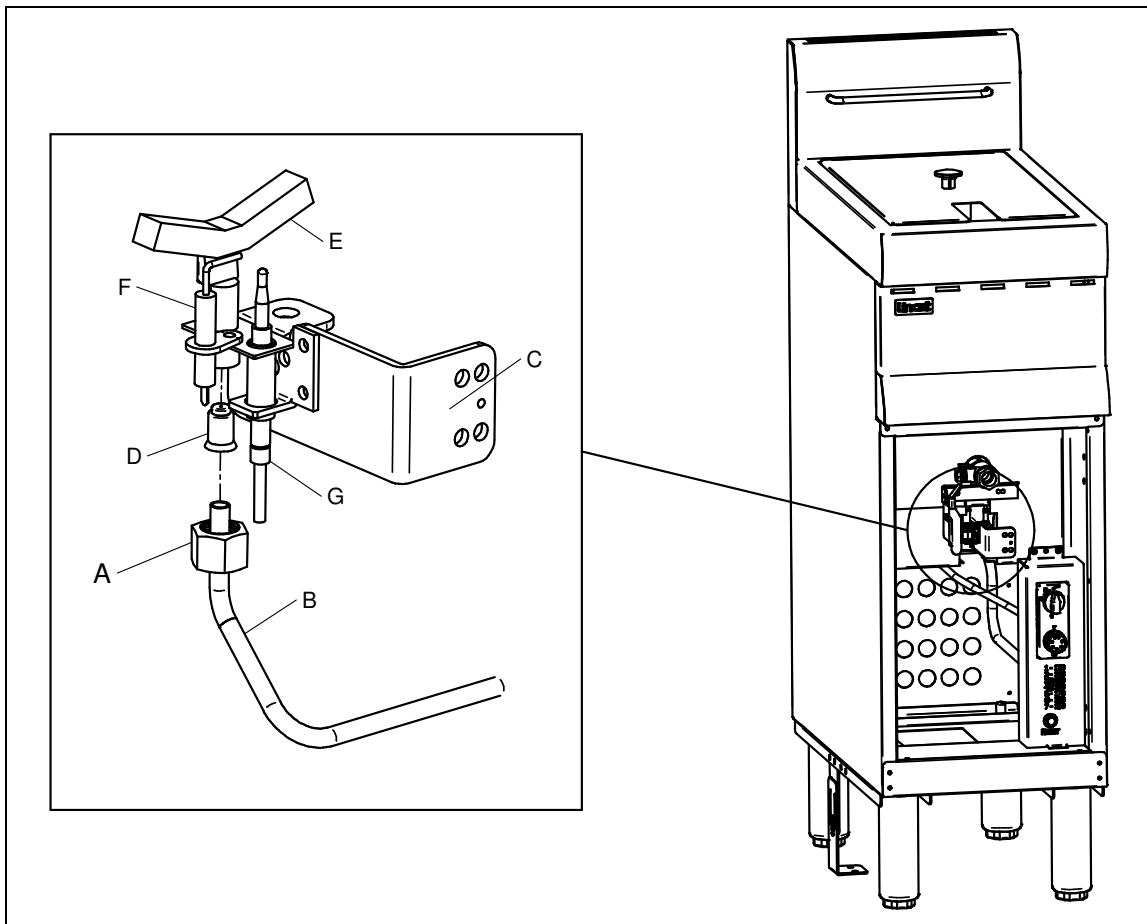

Fig 4
Ensure the control knob (Fig 3 B) is in the 'Off' position (Fig 3 C). Push in and turn anticlockwise to the pilot position (Fig 4 E) during which the piezo igniter will click to ignite the pilot.
Remove the blanking nut (Fig 4 J) from the front of the appliance. Fit the drain tube. Place a suitable receptacle under the pipe outlet. Lift the drain valve handle lock (Fig 4 K) to allow operation of the drain valve, then move the drain valve handle forwards and upwards to drain. After draining, close the valve, remove the pipe and refit the blanking nut. Excess oil remaining in the base of the tank can be removed with kitchen paper.
Access to the ignition system components most liable to need replacing is best obtained by removing the complete ignition assembly from the fryer. Referring to Fig 4, this may be achieved by undoing the pilot nut (A) from the pilot pipe (B) at the pilot end. Ensure that the pilot jet (D) is not dropped. Next, release the holding bolts from the bracket (C) and lower the assembly clear of the unit. Replace the specific part as detailed below, and reassemble in the reverse order.